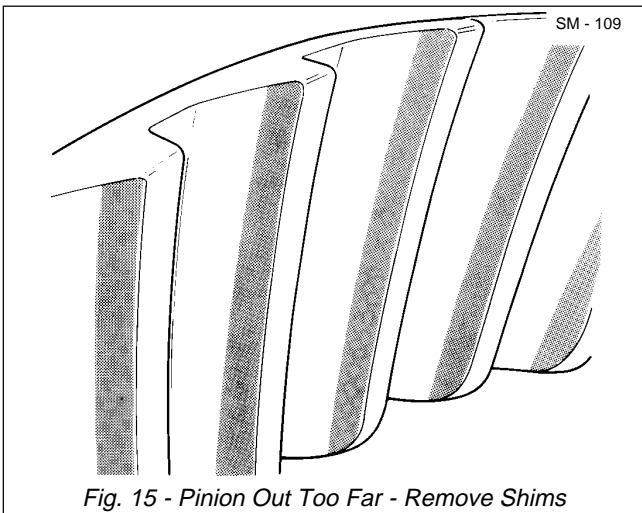

Fig. 15 - Pinion Out Too Far - Remove Shims
- e. If the contact area is along the top edge of the ring gear teeth, see Fig. 15, move the pinion in by removing shims.